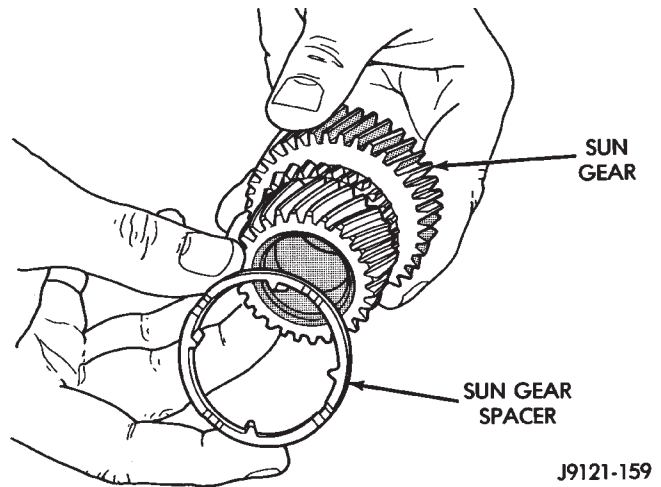

Fig. 88 Installing Spacer On Sun Gear
(7) Install spacer on sun gear (Fig. 88).